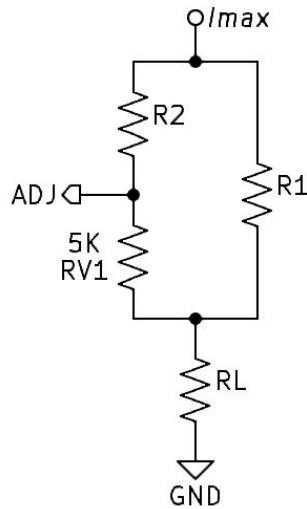

Figure 12.6: LM317 I_{max} Circuit Redraw
- The LM317 I_{max} circuit redraw Figure 12.6. shows RV1 in the extreme position where pins 1 and 2 are connected.